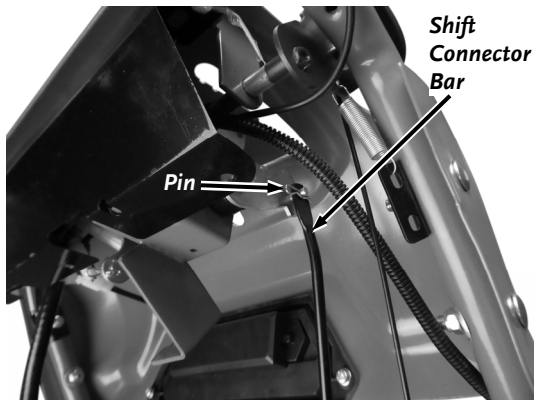

Figure 11
8. Remove the Pin and install the upper end of the Shift Connector Bar (**Figure 11**).